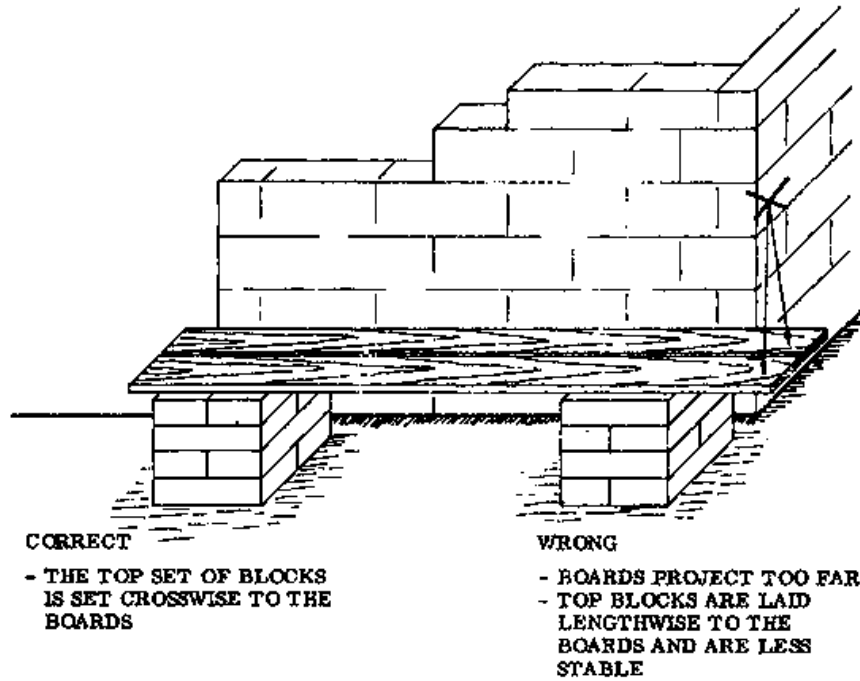

Fig. 1
- **BLOCK SCAFFOLD:** This is the lowest and simplest working scaffold. It is used to raise the worker a bit higher to make it easier to build the wall up to the actual scaffold height of 1,5 m. Set the sandcrete blocks on solid, level ground and lay one or two boards across them (Fig. 1).